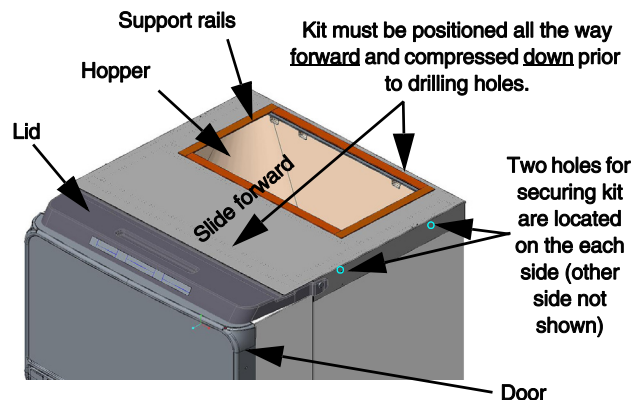

Figure 3. Kit Position
- Refer to Figure 3.
5. Secure the kit to the machine using the screws provided. Refer to Figure 3.